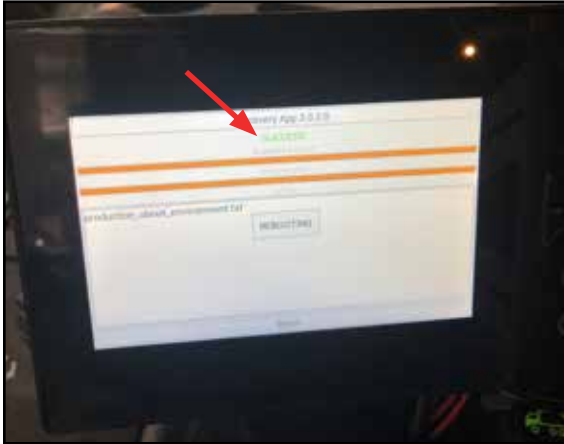

Figure 19
10. Once the installation is complete, it will show "SUCCESS" at the top of the screen. The display will automatically restart and enter its normal operation mode. See Figure 19.